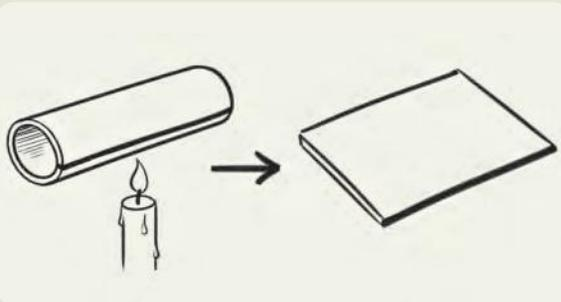

Figure 10.7 Heat from a candle will flatten a round PVC pipe.
- 3 Apply heat underneath the opening as shown in the photo below. As you apply heat, hit the heated part with a mallet so that the round PVC can bend and flatten. Applying too much heat will burn the PVC pipe. Repeat this until the round PVC pipe is flattened as shown in Figure 10.7.